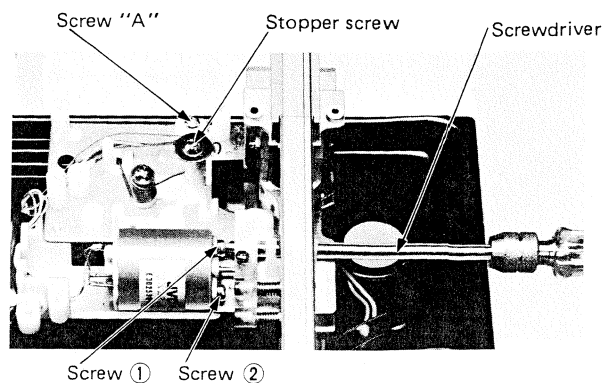

Fig. 13
1. Remove the stopper screw. (Fig. 13)
1. To remove the motor, remove screws ① and ② as shown in Fig. 13.
1. Remove screw "A" (in Fig. 13), then remove the mechanism base ass'y from the bottom board.